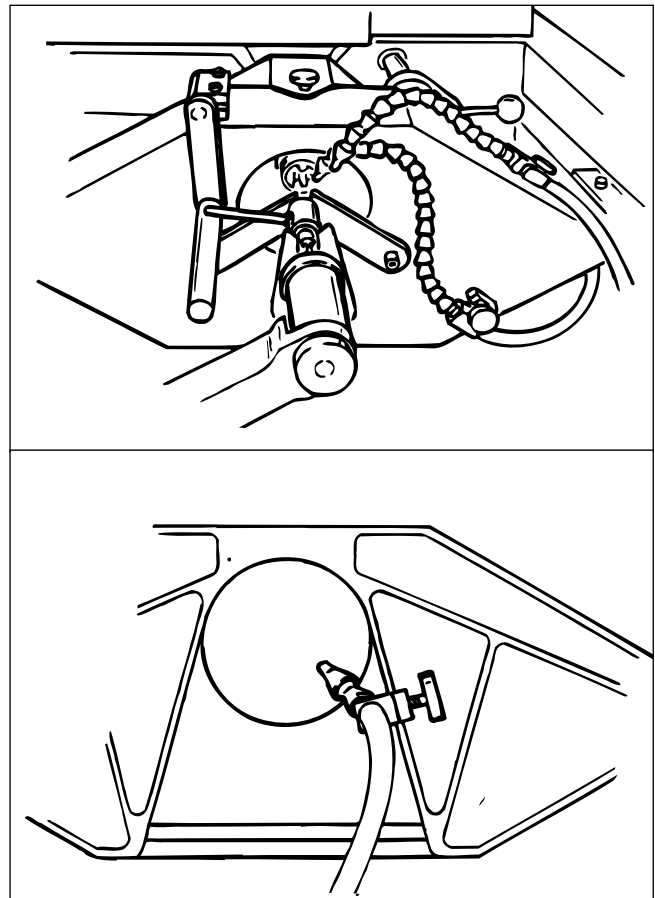

FIGURE 3-2, Coolant Line
38. Set coolant lines to supply a continuous supply of coolant to front and back of bore. Coolant nozzles are attached to small aluminum bases that can be attached to stroker carriage (see Figure 3-2). Turn COOLANT selector to CONSTANT and adjust valves on coolant manifold. Use as much coolant as possible without losing any to splashing or spraying out of machine.